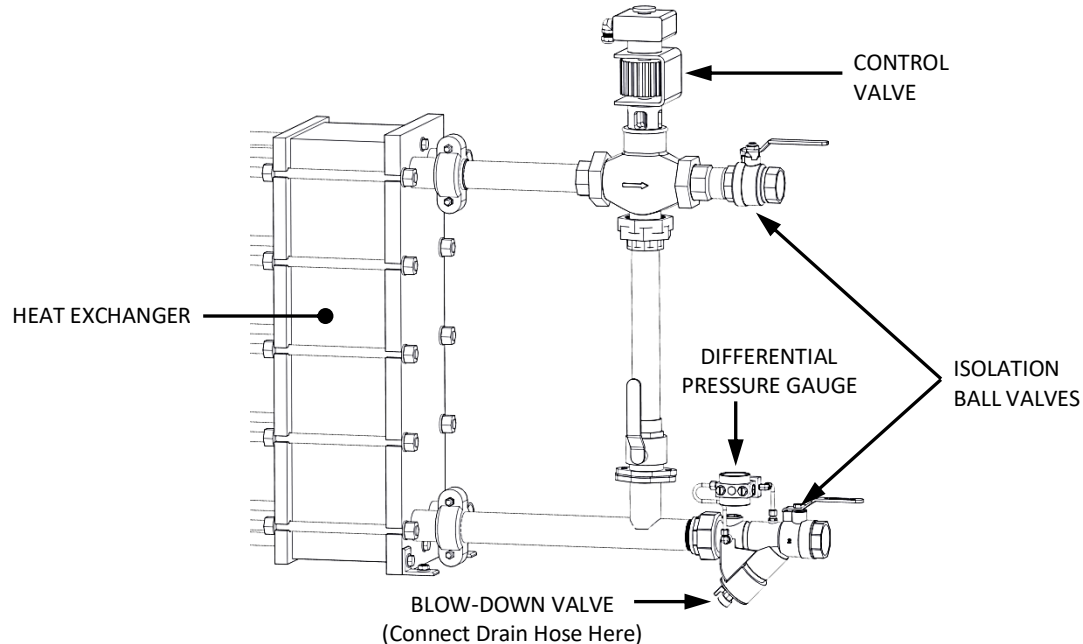

Figure 8-24. Boiler Water Piping Components
4. Connect a hose to the Blow-Down Valve/Drain on the lower pipe Strainer (Figure 8-24).
1. Close both Isolation Ball Valves in the Boiler Water piping (Figure 8-24).
9. Close the Blow-Down Drain Valve and open both Isolation Ball Valves (Figure 8-24).